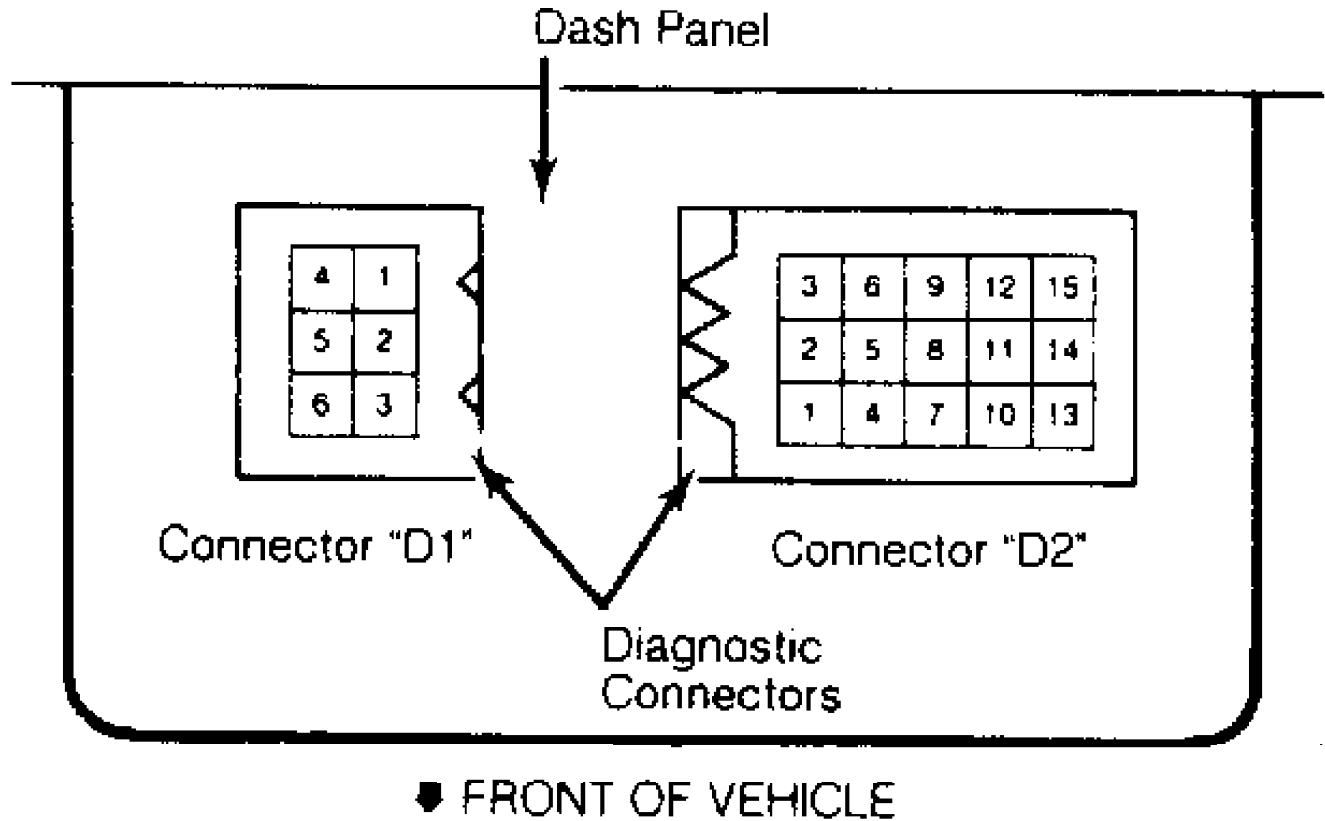

Fig. 3: Diagnostic Connector Terminal Identification
2) Ensure all accessories are off. Connect positive tachometer lead to terminal "D1-1" and negative lead to "D2-7" of diagnostic connectors. See Fig. 3. Disconnect air stepper motor connector and TPS wiring connector. See Fig. 4.